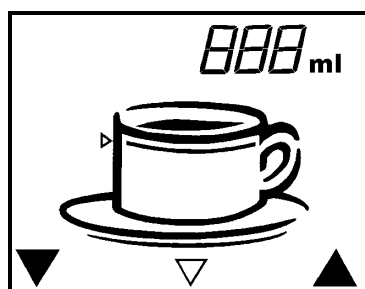

Fig. 8
1. Select program 'setting the quantity of beverage per cup'. Figure 8 appears in the display.
2. Press the right-hand side of the setting key  (13) for a larger quantity, (maximum approx. 280 ml).
3. Press the left-hand side of the setting key  (13) for a smaller quantity, (minimum approx. 80 ml).